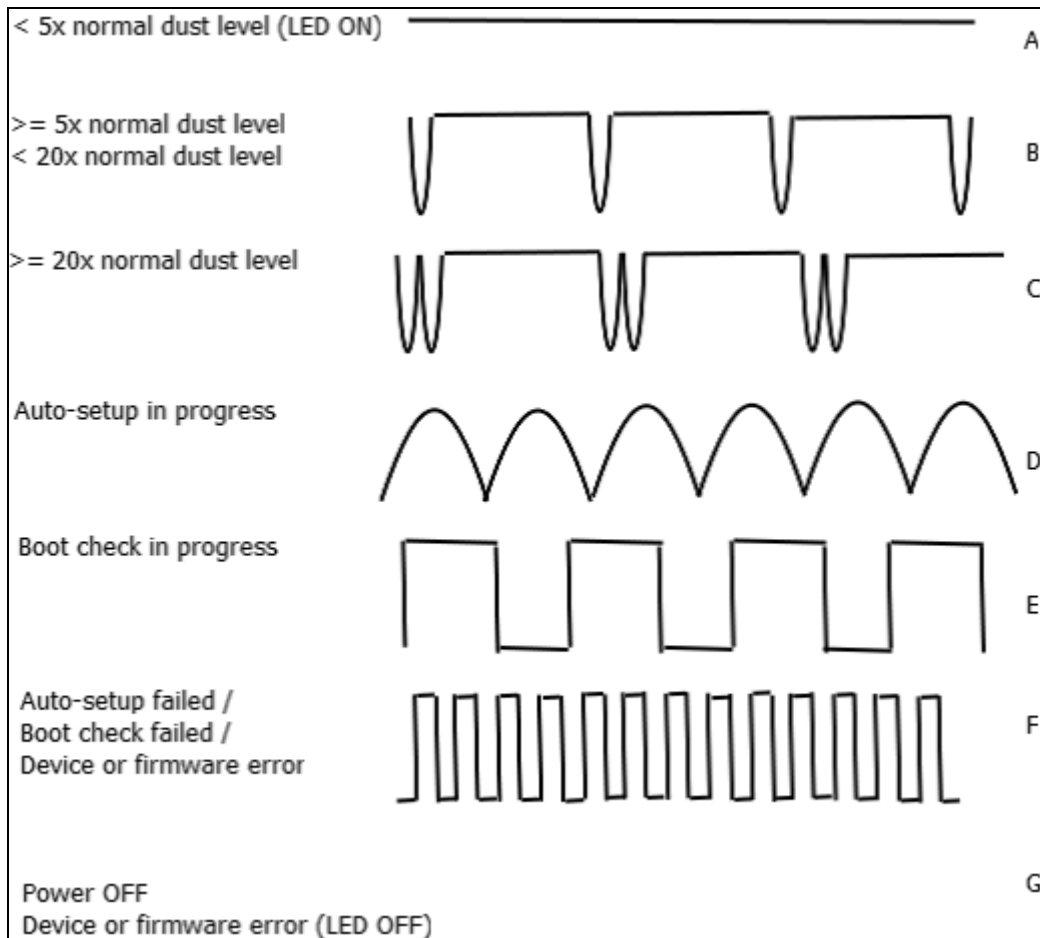

Figure 10 Description of Snifter A2 RF cover illumination sequences.
- 2.1 by connecting the automatic setup signal (green wire) to the V+ signal (wire) for a period of 1 second. The automatic setup will initiate and the front panel light will start to blink slowly (sequence D in Figure 10 Description of Snifter A2 RF cover illumination sequences.).